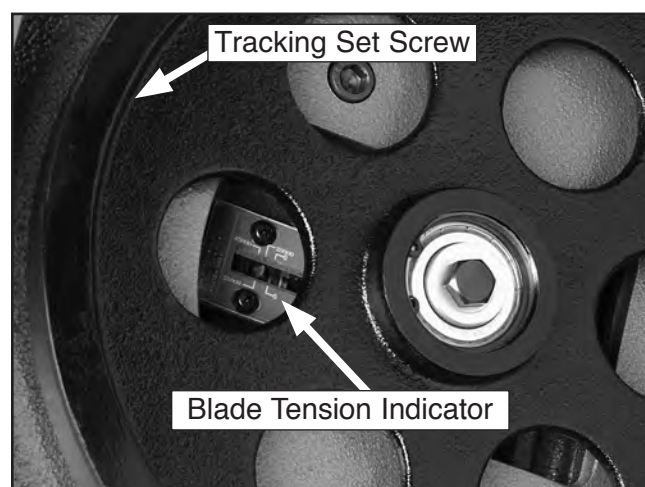

Figure 41. Blade tension indicator.
2. Use the graduated scale on the blade tension indicator (**Figure 41**) to determine blade tension in PSI.